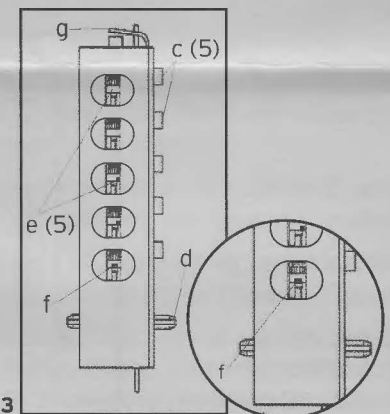

Fig. 3
3. Look at the 5 code gears (e) found inside the oblong windows. If any code gear pockets (f) are already at the shear line (open position), ignore them. They are not used in the combination (See Figure 3).
4. Find the code gear pocket/s (f) that is farthest away from the shear line (open position). Depress that key-stem/s (c) and release (See Figure 3). If any code gear pockets are equal distance from the shear line, then they must be depressed together to reset the combination.
5. Find the code gear pocket/s (f) that is the next farthest away from the shear line (open position). Depress that key-stem/s (c) and release (See Figure 3).
8. Depress the lockout slide (g) at the top of the chamber and release (looks like one end of a spark plug) (See Figure 3).